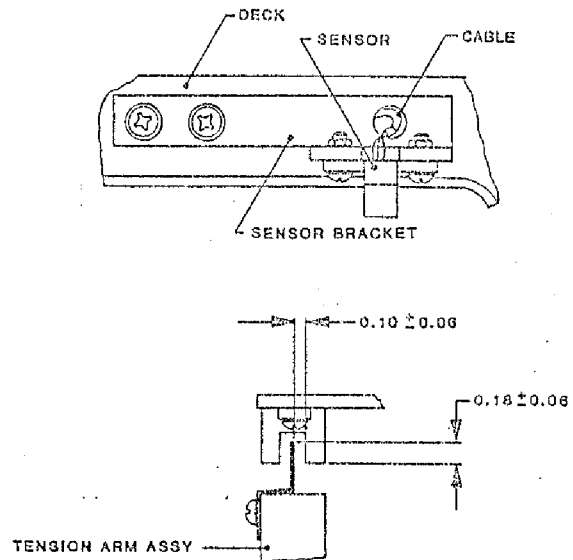

Figure 5-13. Take-up Arm Limit Sensor
5.3.17 TAKE-UP ARM LIMIT SENSOR (Figure 5-13)